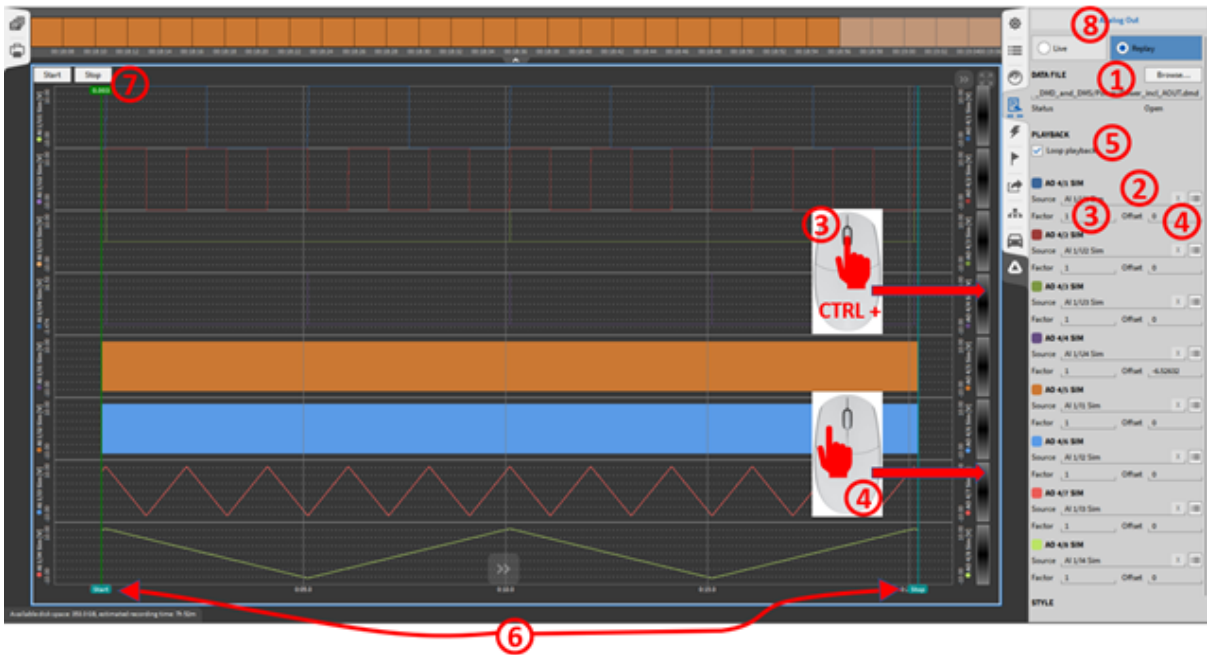
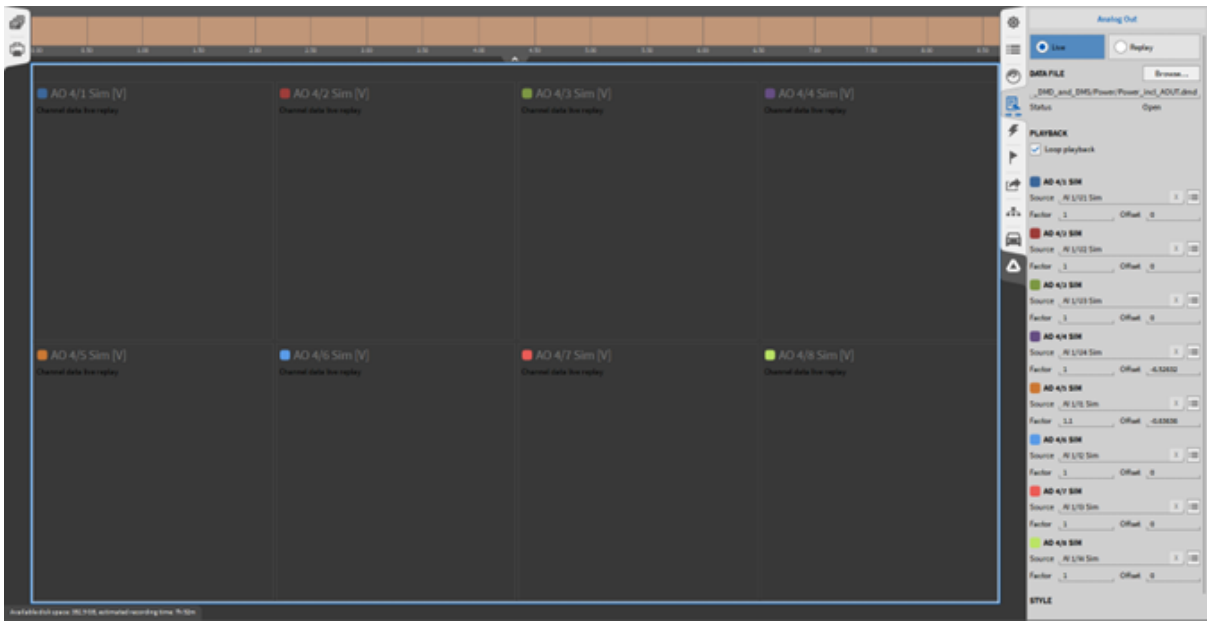

Fig. 4.16: Stream Output Instrument: Instrument properties (Replay)
Fig. 4.17: Stream Output Instrument: Instrument properties (Live)
- To load a data file and choose the channels to be output, open the instrument properties by either double-clicking on the instrument itself or selecting the instrument and open the Instrument Properties menu tab (see Fig. 4.16).
- ① Click on Browse to choose the .dmd file to be replayed.
- ② Assign the input channel to the output channel.
- ③ Adjust the output scaling factor.
- ④ Adjust the output offset, if desired.
- ⑤ Loop the playback, otherwise the signal will only be output once.
- ⑥ Use the cursors to replay only a certain part of the data file.
- ⑦ Start/stop/pause the playback.
- ⑧ Playback mode “Replay” is used to play back channels of a previously recorded OXYGEN file. (see Fig. 4.16) Playback mode “Live” is used to play back scalar channels of the current measurement (see Fig. 4.17), no data is displayed in the instrument. In “Live” mode, the instrument is only used to set the channels to be transmitted, which are directly output as AOUT channels with the set delay time.